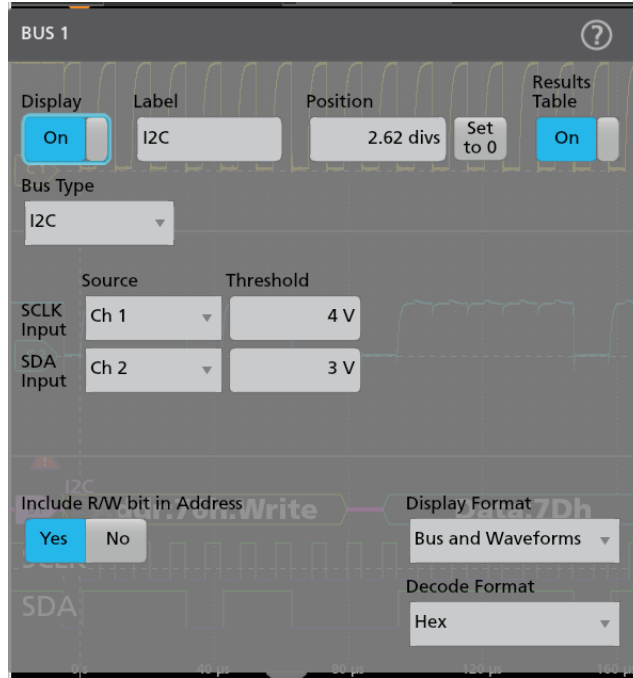

Figure 1. Bus configuration for I2C input.
3. To decode the messages sent by the Arduino and temperature sensor connect the channel 1 probe on the 2 Series MSO to the clock signal (SCL) and the channel 2 probe to the data signal (SDA). Activate channels 1 and 2 by pressing the colored channel buttons on the right panel on the 2 Series MSO. Add a bus channel by pressing the "Bus" button. On the bus menu, select I2C under "Bus Type". Follow the rest of the configuration settings shown in Figure 1. to set up the bus. Exit the menu and double tap on the screen to bring up the "WAVEFORM VIEW" menu. Select "Stacked" under "Display Mode" to see both input channels and the bus.